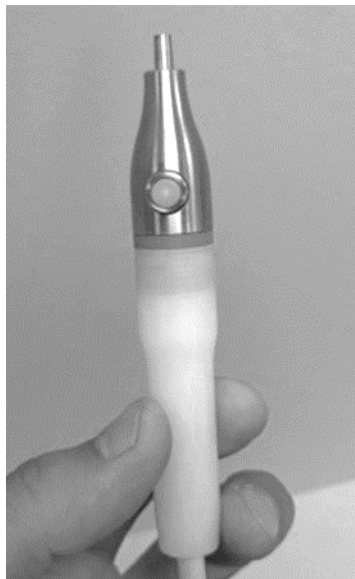
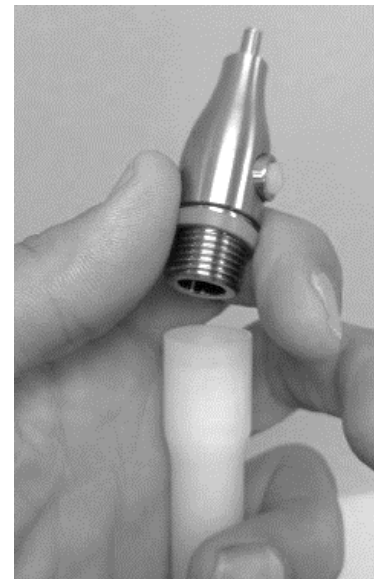

Fig. 1
Fig. 2
- 4 Unthread nut to irrigator handpiece body. Remove from the connector valve. (Fig. 1; Fig. 2)